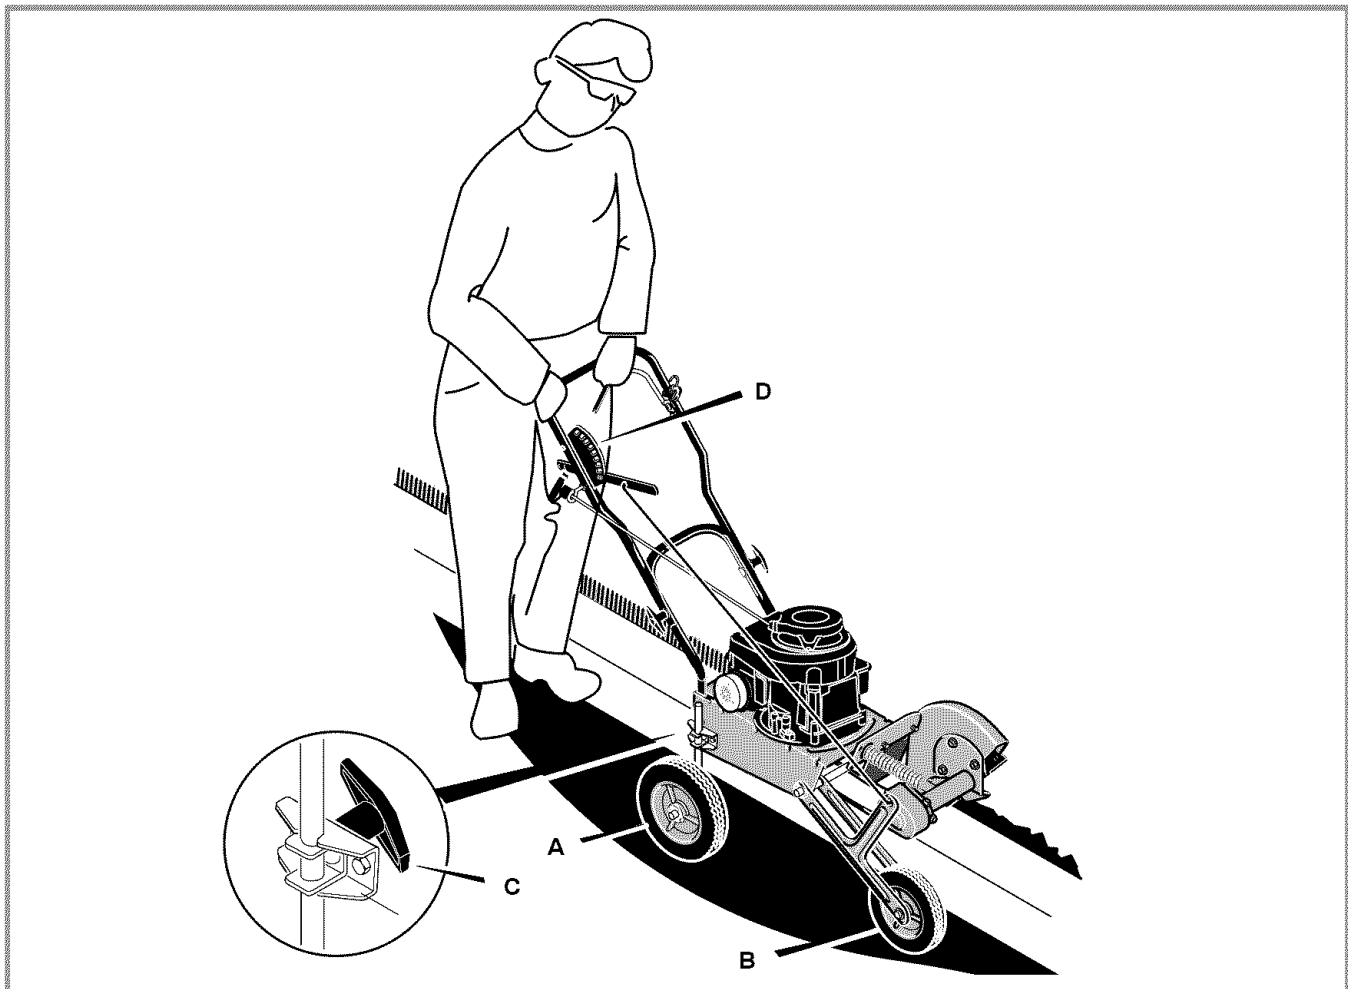

Figure 14: Curb-Hopping Feature
Because the front wheel and the right rear wheel are adjustable, the edger can be used on uneven surfaces, such as the curb shown in Figure 14.
- 4 In the correct position, both the right rear wheel (A) and the front wheel (B) are off to the side of the curb and the left rear wheel is on the curb as shown in Figure 14. Position the edger to allow the wheels to be lowered.
- 5 Loosen the rear wheel knob (C) to lower the right rear wheel to the pavement. Make sure the edger is level from side to side and tighten the rear wheel knob.
- 6 Use the depth control lever (D) to lower the front wheel to the setting where the front wheel touches the pavement and the edger is level.